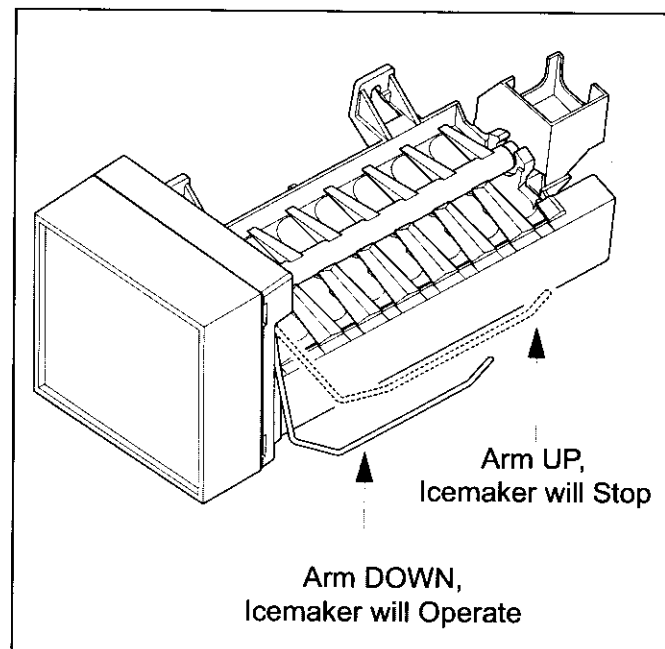

Figure 6-12. Stopping Icemaker
- If the ice level arm sticks in the "up" position, ice production will stop (See Figure 6-12).